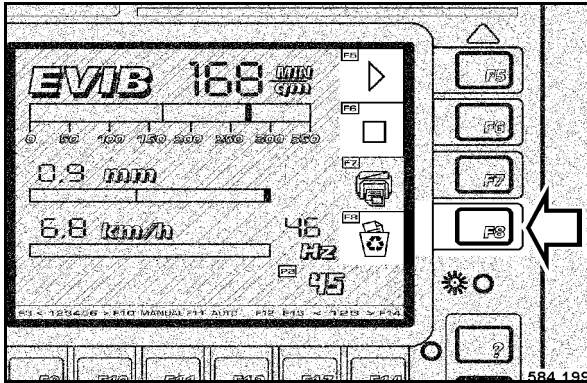

Fig. 102
- If no further printouts of this track are needed, press the button F8 “DELETE” (Fig. 102) when the red control lamp F6 “FINISHED” lights up.